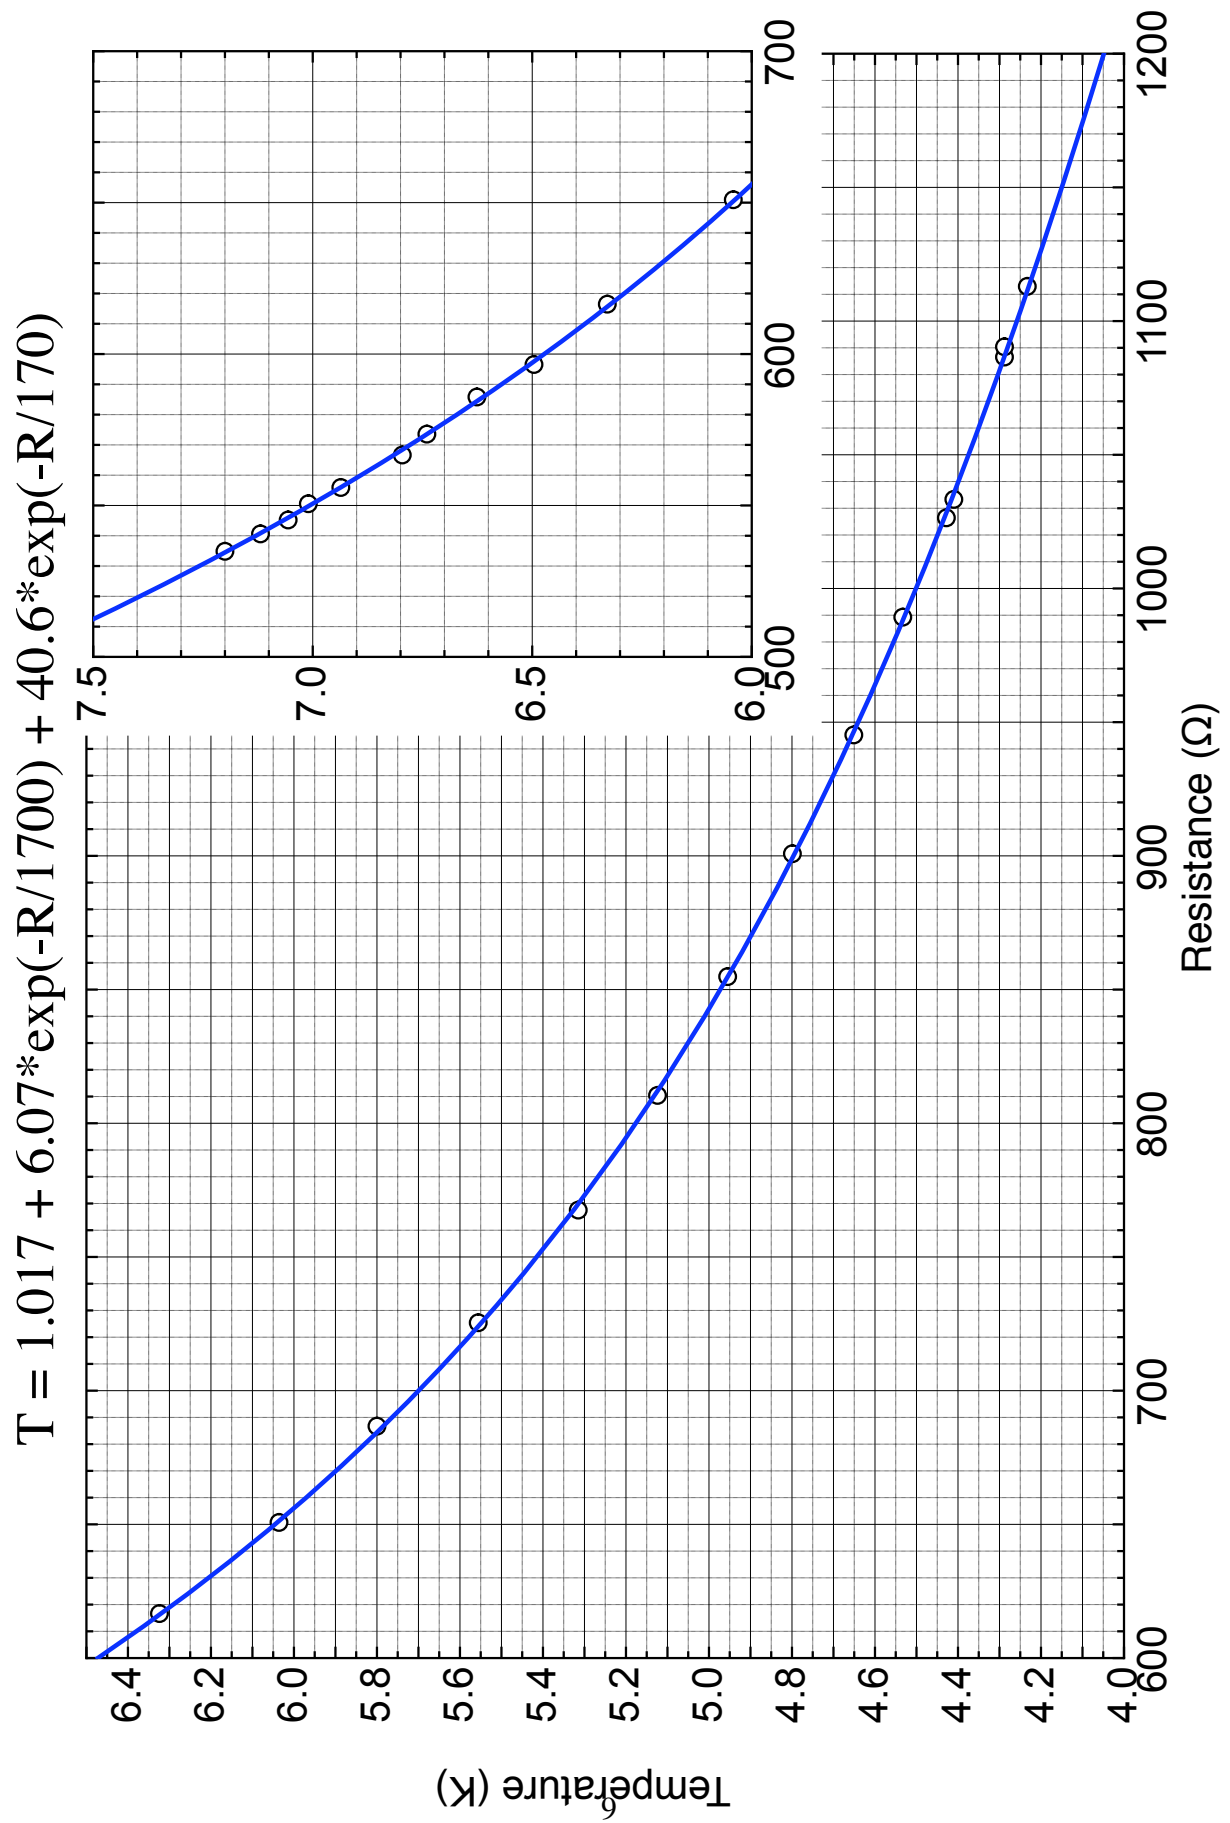

Figure 6: The calibration of the carbon thermometer.
During the measurements the entire coil system is placed in a bath of liquid ^4He ($T = 4.2$ K). The sample is in good thermal contact with a copper holder, on which the sample heater (4) is wound. Using a current source, the sample can be heated by a few Kelvin. The temperature measurements are done with the help of a carbon resistor (5). The temperature can be determined from the measured resistance using the calibration curve (see Fig. 6).